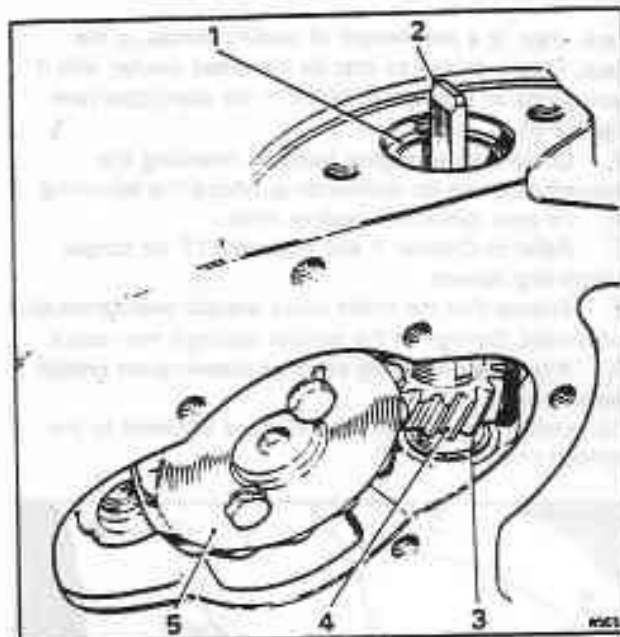

Fig. E7-6 Distributor driving gears (other than turbocharged engines, and all engines conforming to 1983 model year specifications and onwards)
5. Remove the pressed steel cover from the rear end of the crankcase to expose the distributor driving gears (see fig. E7-6).
4. When the gear is fitted, the slot in the top of the gear spindle should be in line with the camshaft (see fig. E7-6).